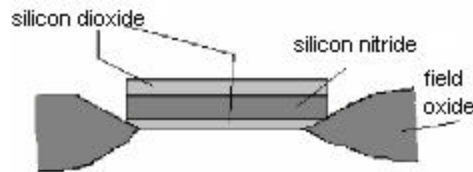

Figure 11.32: bird's beak
0.45 mU of silicon, when oxidized, becomes 1 **mU** of **SiO₂** because of change in density. When field oxides are grown, there is an encroachment of the oxide layer in the active transistor region below the gate oxide, because of the affinity of the **SiO₂** gate oxide for oxygen. The resulting structure resembles a **bird's beak** (as shown in figure 11.32). This affects the device performance.